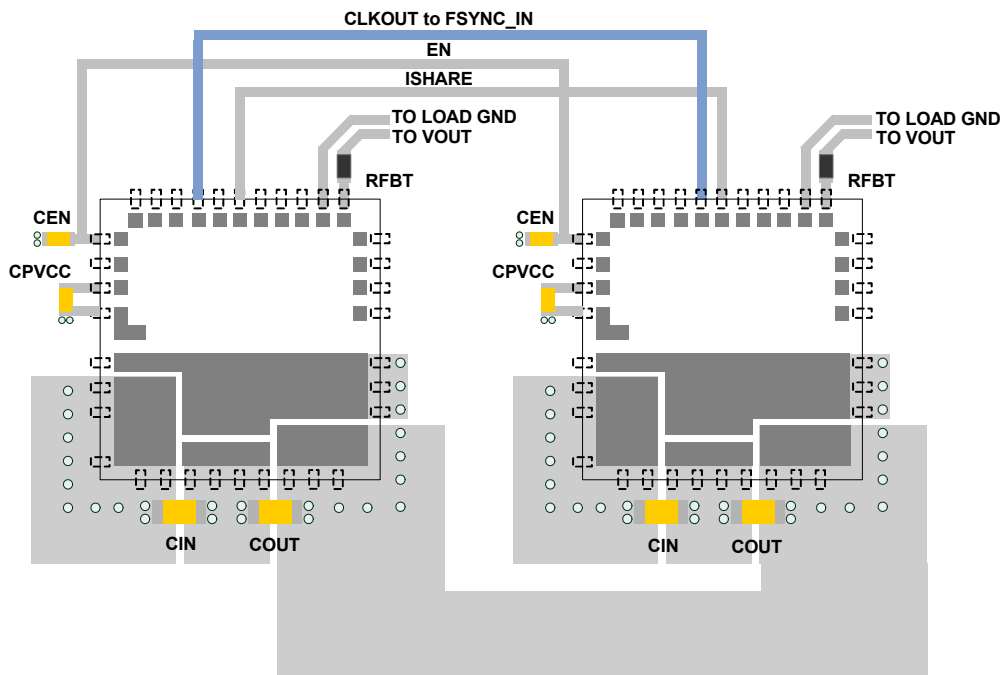

FIGURE 37. RECOMMENDED LAYOUT FOR DUAL PHASE SETUP
- Place modules such that pins 1 to 11 point away from power pads (PD1-4) so that signal busses (EN, ISHARE, CLKOUT-to-FSYNCIN) can be routed without going under the module. Run them along the perimeter as in Figure 37.
- Keep remote sensing traces separate, and connect only at the regulation point. Four separate traces for VSEN_REM- and RFBT (which stands for remote feedback) as the example shows in Figure 37.